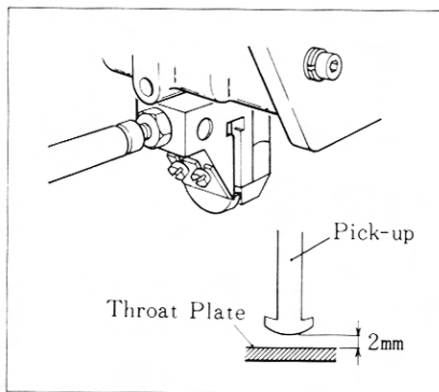

Figure 10
5. Upper Thread Trimming (Figures 10 and 11)